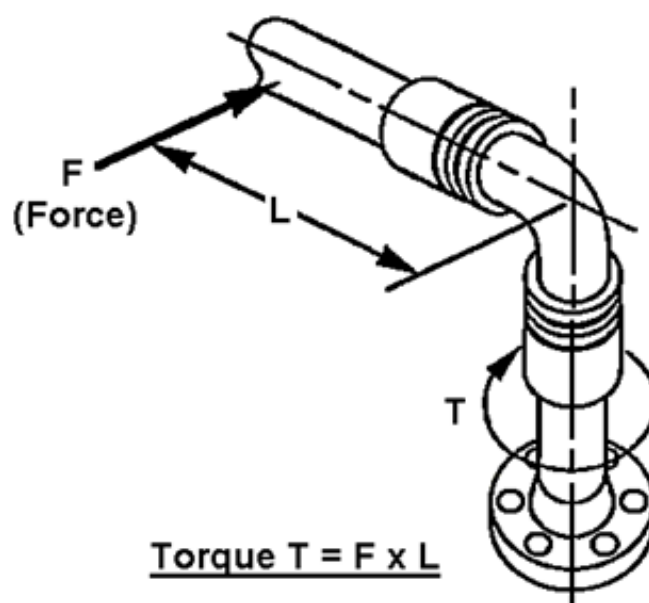

Figure 3: Application of Torque Loads During Fit-Up
This is demonstrated in Figure 3. Where a force (F) applied to the free pipe end length (L) causes a torque moment (F x L) to be transmitted to the down leg of the already installed Lokring elbow.